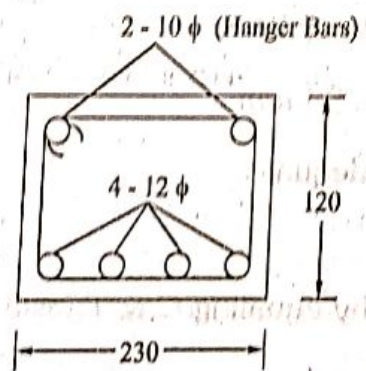

Fig 3.29 :
7. Details of Reinforcement are Shown In Fig. 3.29.